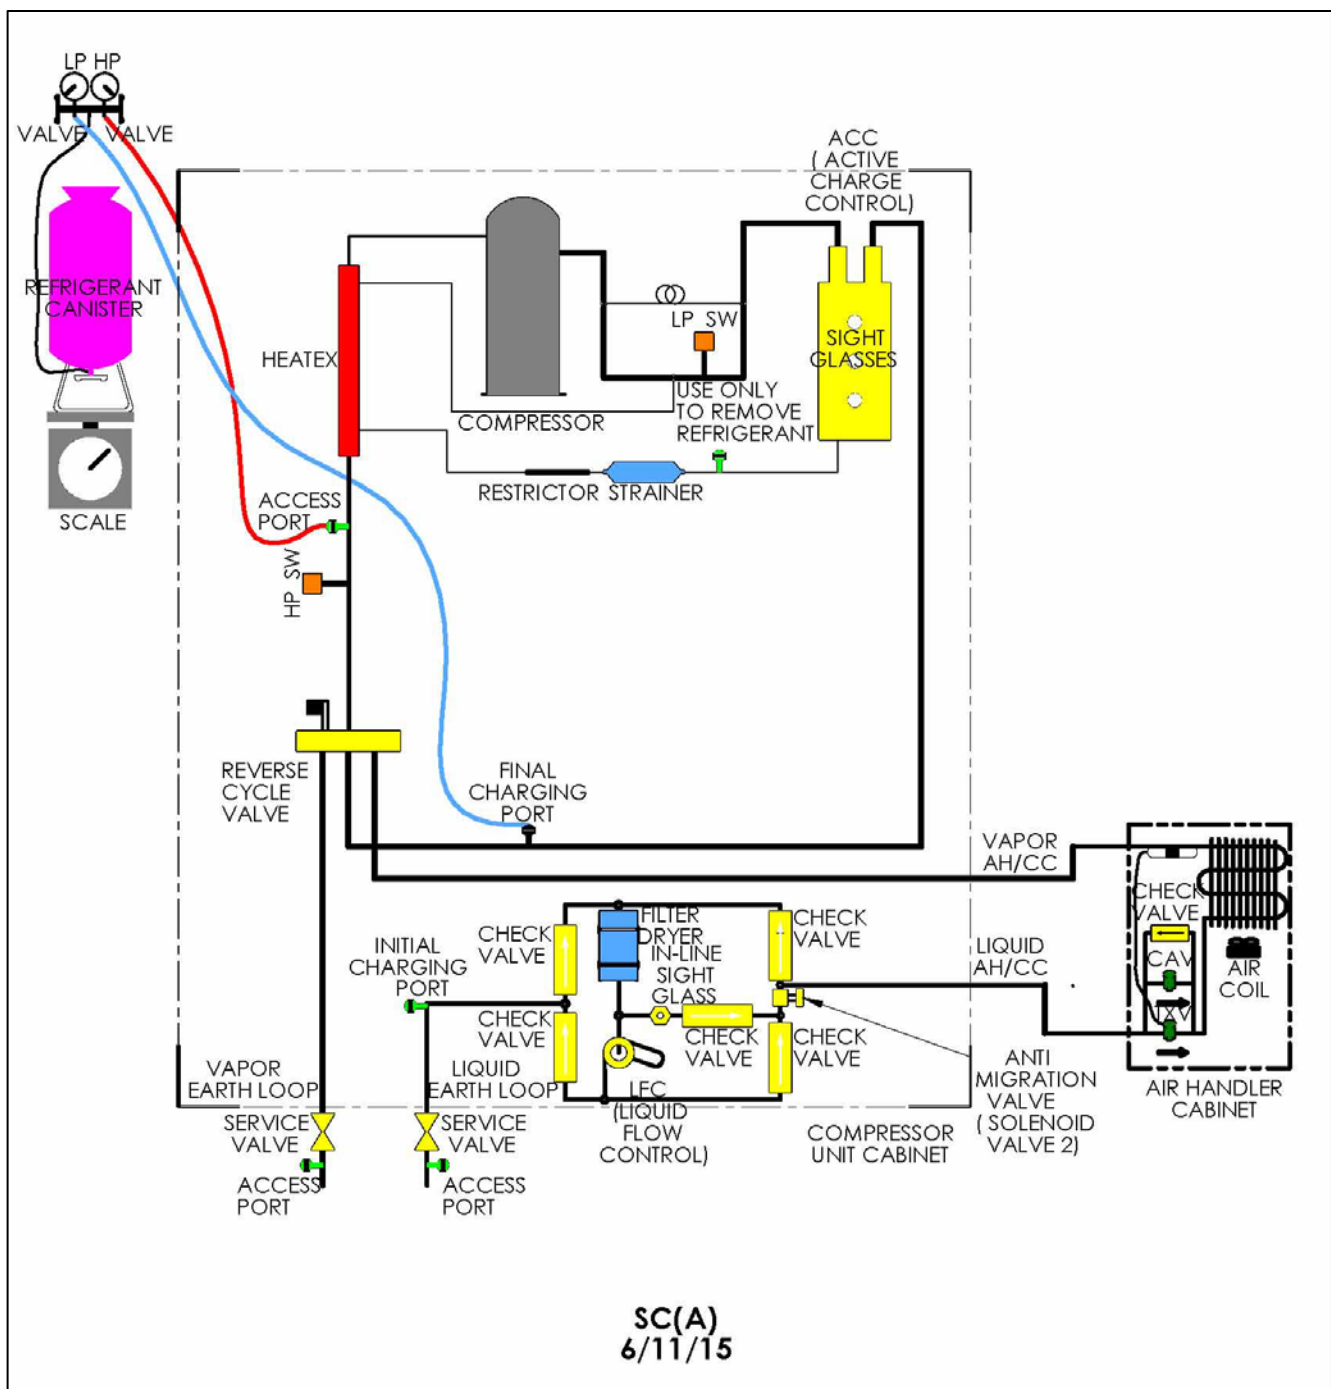

Figure 28. Final Charge of SC(A) System
2. Crack open the LP valve on the manifold gage set so that a small amount of refrigerant gas flows to purge the hose. Connect the hose to the final charging port, shown in Figure 28. Tighten the hose to the final charging port and turn off the LP valve when the hose connection is secure.
7. With the liquid refrigerant level at the middle sight glass, attach and insulate a temperature clamp or probe securely to the earth loop vapor line at the compressor unit service valve shown in Figure 28. Read the measured temperature. Also read the LP gage pressure on the manifold gage set. Use a pressure/temperature chart (Figure 34) to verify that the system is operating at saturation, meaning that no superheat is measured on the earth loop vapor line. To verify this, the measured vapor line temperature should be within $\pm 3^{\circ}\text{F}$ of the saturation temperature read from the chart for the measured LP gage pressure. If the measured temperature is out of this range, contact ETI technical support at 1/863-701-0096.